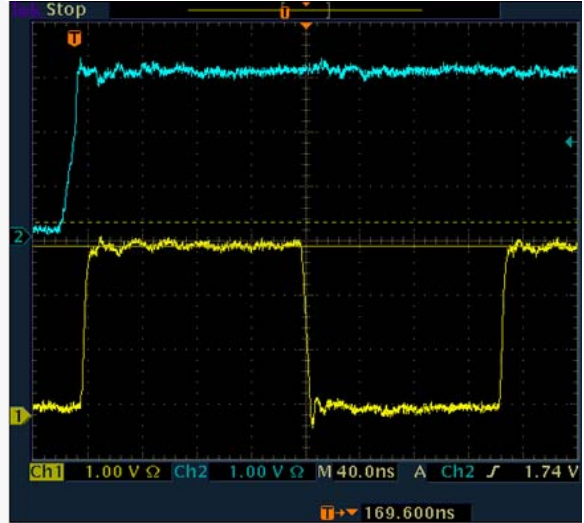

Figure 14. Scope Shot of I/O and Clock Signals
Due to open-drain technology, hosts and SIM cards do not use push-pull drivers on the I/O pin. Logic LOWs are pulled down (I_{sink}), while logic HIGHs are “let go” (3-state). During a logic LOW on the I/O pin, both series NpassGates are turned on and act like a very low resistive short between the host and the SIM card. When the host or card lets go of a previously held LOW on the I/O pin, the rise time is largely determined by the RC time constant, where R is the external pull-up resistor and C is the I/O signal trace capacitance. The value of R_{PU} is to be chosen to not exceed 1 mA maximum I_{OL} per IOS7816-3 compliance testing. The FXLA2204 acts as a very low resistive short between the host and SIM card (during a LOW) until either of the port’s $V_{CC/2}$ thresholds are reached. After the RC time constant has reached the $V_{CC/2}$ threshold of either port, the port’s edge detector triggers both dynamic drivers to drive their respective ports in the LOW-to-HIGH (LH) direction, accelerating the rising edge. The resulting rise time resembles the CH2 waveform (blue) of Figure 14. Effectively, two distinct slew rates appear in the rise time. The first slew rate (slower) is the RC time constant of the I/O signal trace. The second slew rate (faster) is the dynamic driver accelerating edge.